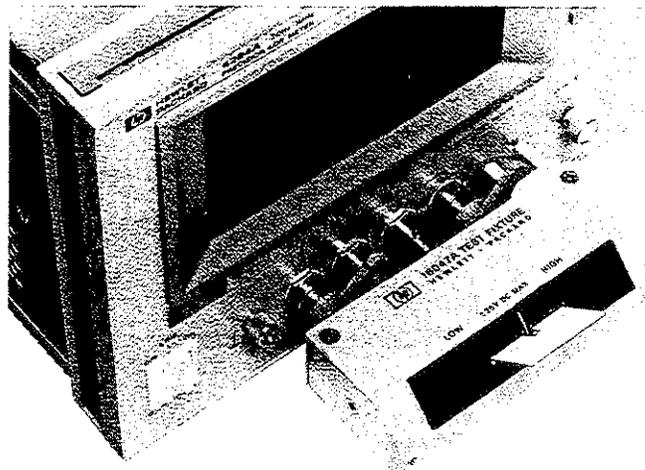

Figure 6-24. Connecting A Shorting Bar
- f. Connect a shorting bar to the HP 16047A to set up the *SHORT* condition as shown in Figure 6-24.